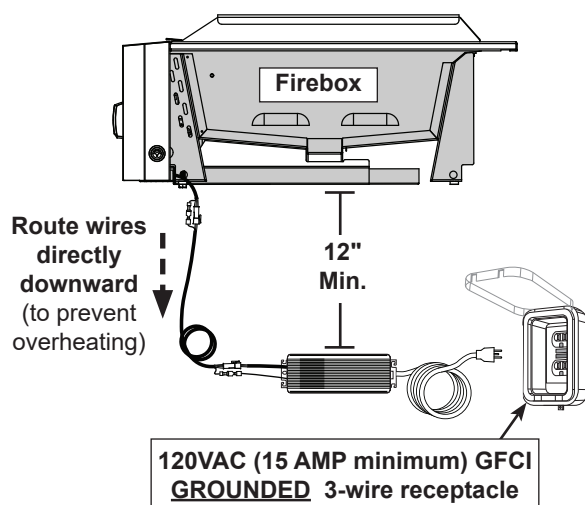

Fig. 31-3 Electrical installation
- located at least **12"** below the bottom of the unit (see Fig. 31-3)